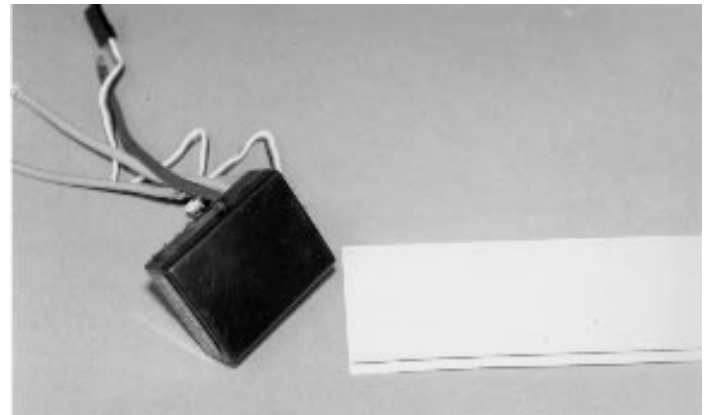
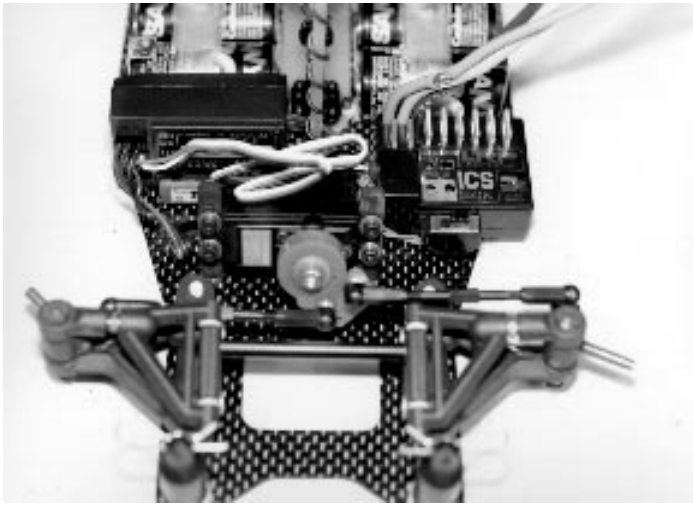
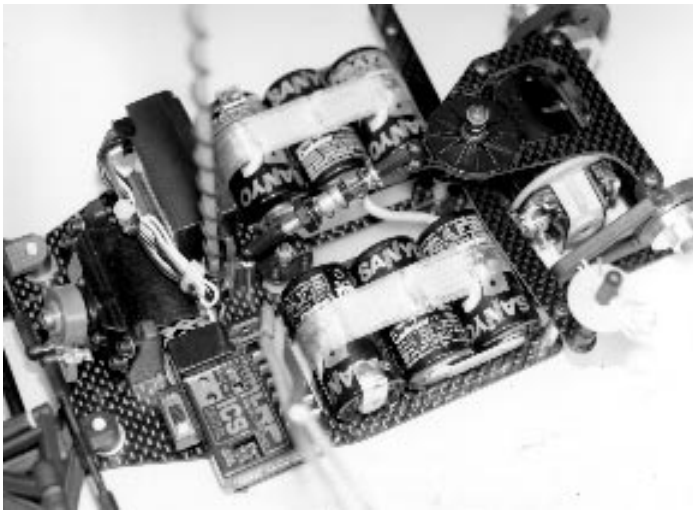

Fig. 91
Fig. 92
Fig. 93
□ **Figs. 91, 92 & 93** Now cut another piece of servo tape to match the bottom of the speed control case. Attach the ESC to the chassis with the servo tape. Fig. 92 shows the proper location for our installation.
Now take the servo wire from the steering servo and plug it into channel #1 (rudd) of the receiver. Next take the servo wires from the ESC and plug it into channel 2 ("thro") of the receiver see fig. 92. You will find a small bag in the master kit bag which contains four #7709 4" electrical wire ties. You can use these to bundle the servo wires to clean up the wiring installation. Fig. 93 shows the servo wires bundled and secured with the wire ties.